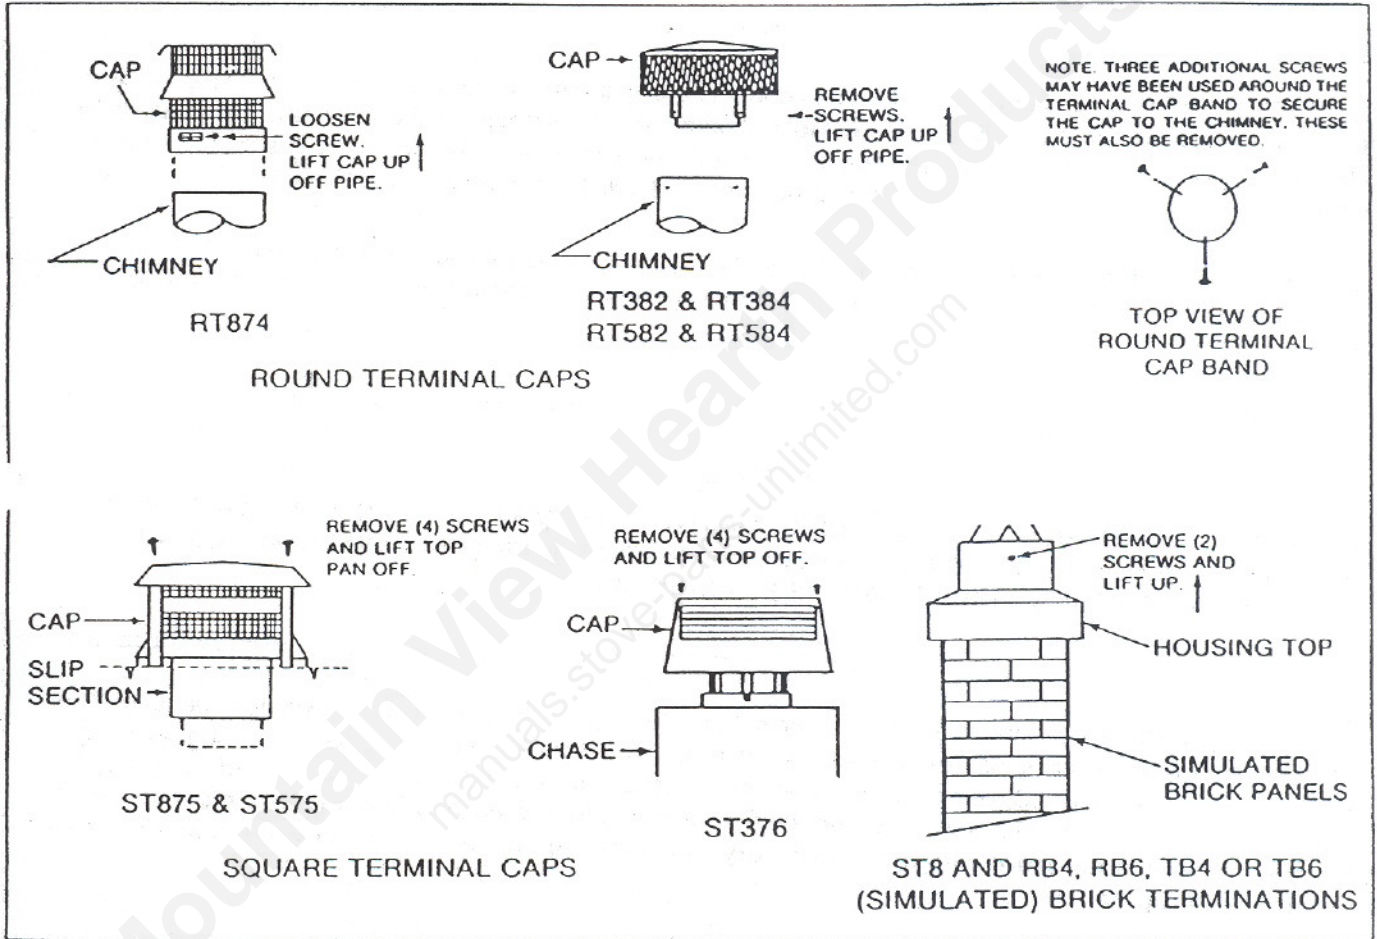

Figure 22
3. Remove the Terminal Cap or Housing Top. See Figure 22.